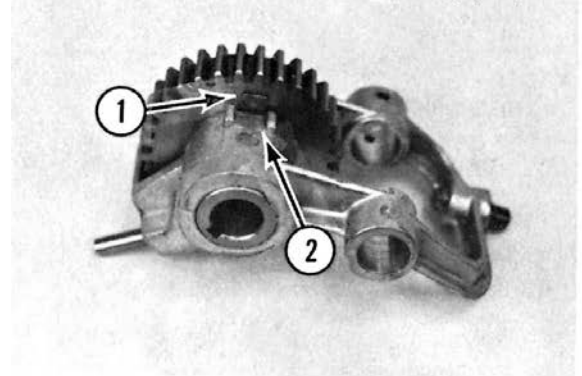

Fig. 3-23
- F. Rotate the retainer (1, Fig. 3-23) so that the tongue is aligned with the bracket (2, Fig. 3-23).